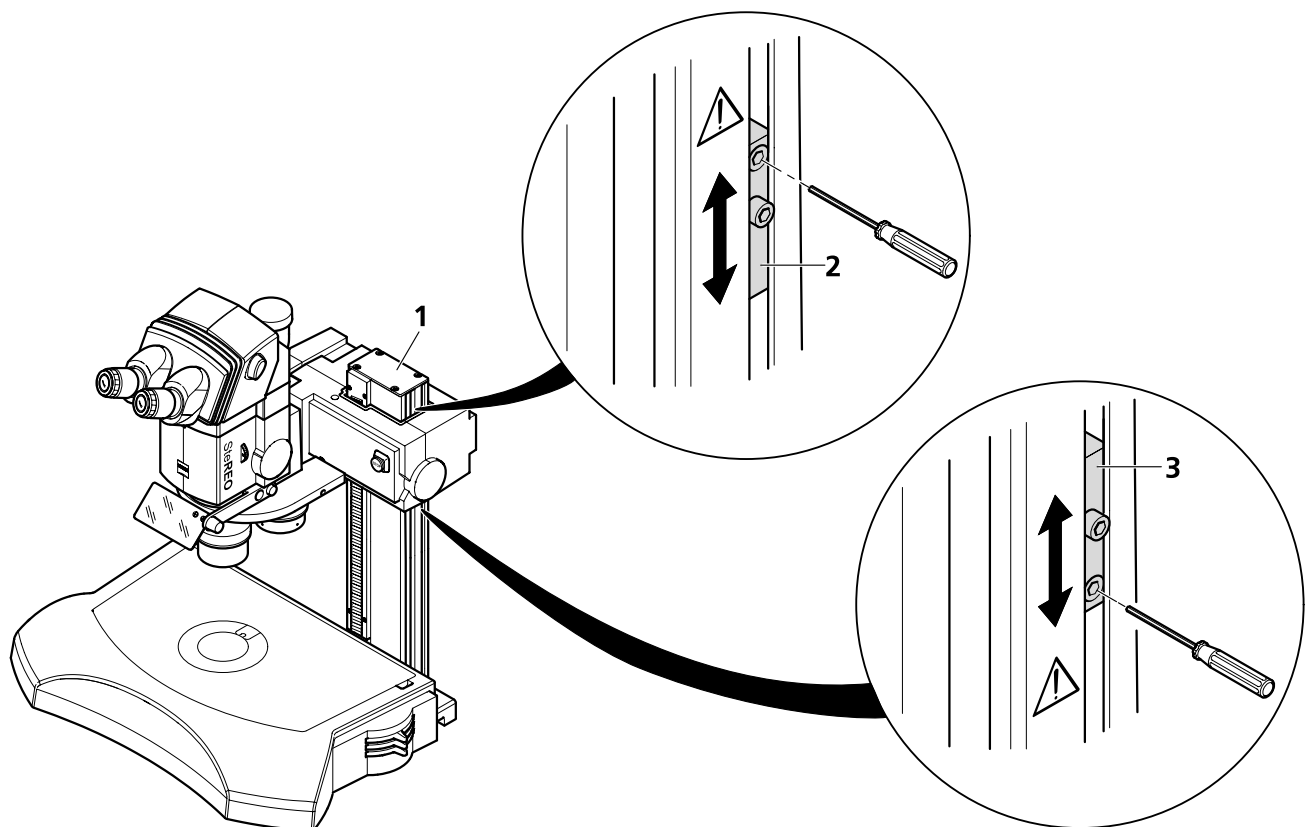

Fig. 36 Adjusting the travel of the focusing drive
After the first installation, the lower limit switch (Fig. 36/3) in the column (Fig. 36/1) must be adjusted from the delivery position to an appropriate working position by means of the ball-headed screwdriver. The upper stop (Fig. 36/2) may also be readjusted. Adjust the limit switches instantly to prevent the microscope from being damaged by the movement of the motorized focusing drive.
- Loosen the screw (SW3) at the lower limit switch (Fig. 36/3) and push the switch downward. Tighten the screw again.